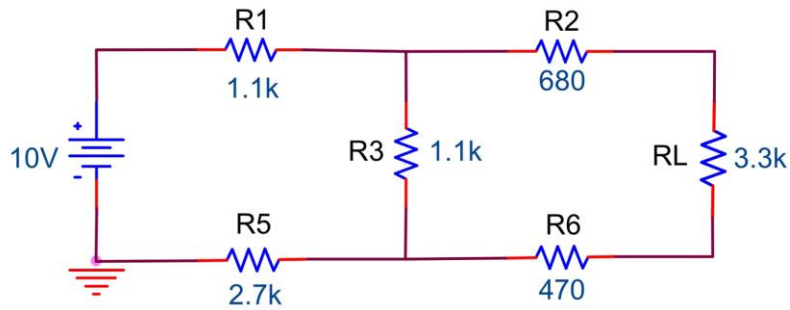

Figure 6.4
1. Calculate the Thevenin and Norton Equivalents for the circuit to the left of R_L in Figure 6.4.